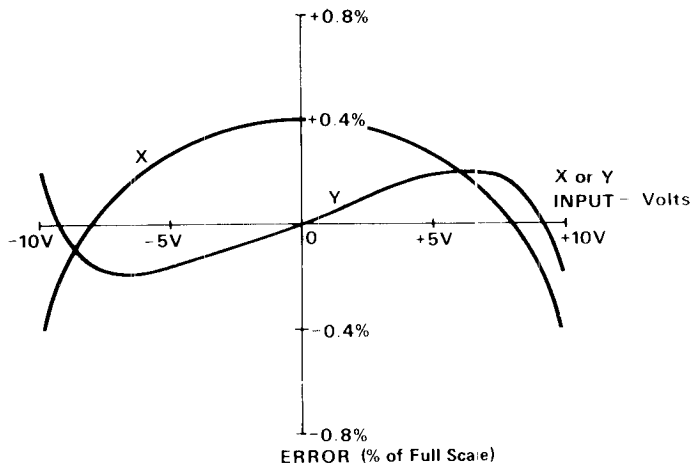

Figure 6. Typical X and Y Nonlinearity for  $kI_Z = 10V$
2. See also Figure 6.
Typical curves for  $V_X$  and  $V_Y$  nonlinearity are shown in Figure 6. However, the actual wave shapes for each can vary significantly from that shown. The  $V_X/kI_Z$  nonlinearity is shown in Steps 5 and 6 of the trim procedure section.